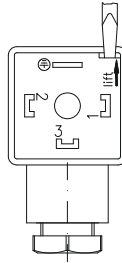

Fig. 8
- ✚ Open the core ⑧ of the cable socket ② with a screwdriver or similar tool (⇒ Fig. 8).